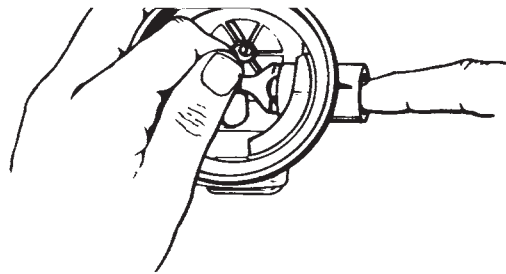

Figure 1
5. Depress the lever and, using a $\frac{3}{4}$ " wrench, remove the inlet fitting (item 27). Remove and discard the o-ring (item 26).
6. Grasp the lever (item 15) and, with your other hand, push the insert (item 13) into the case with your finger tip. *Figure 1.*